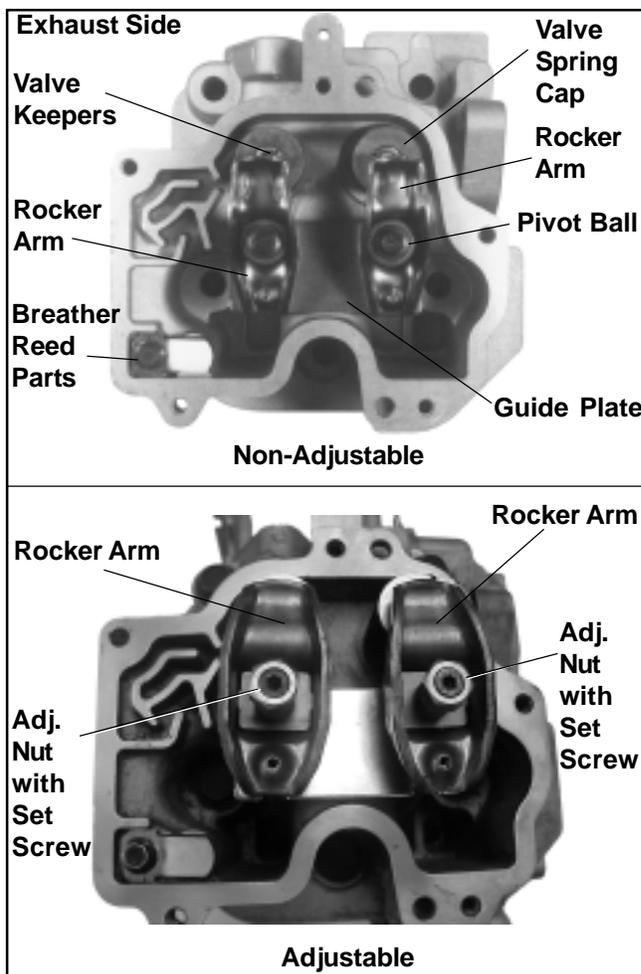
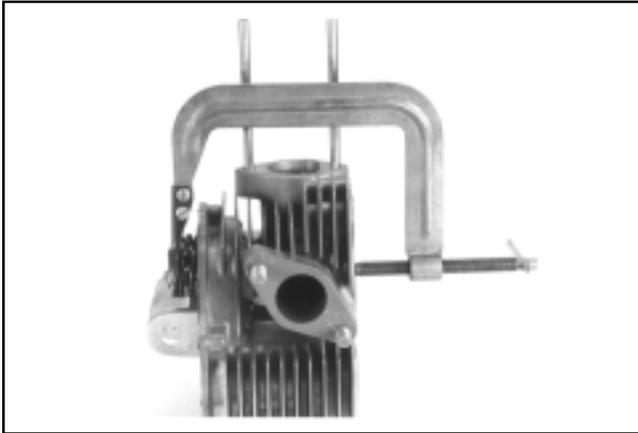

**Figure 9-26. Removing Spark Plug, Breather, and Rocker Arms (Rocker Bridge Head).**
**Figure 9-27. Separate Rocker Arm/ Pivot Assembly Style Head.**
Two basic styles of heads are used. The first style utilizes a rocker bridge configuration as shown in Figure 9-26. The second style contains separate rocker arm assemblies (with or without a guide plate), and either a non-adjustable or adjustable valve lash configuration. Variations of this style are shown in Figure 9-27. Components are unique to each head configuration. Follow the appropriate procedure based upon the configuration involved.
1. Remove the spark plug. See Figure 9-26.
3. **Rocker Bridge Heads** - Figure 9-26
### Heads with Separate Pivots/Rocker Arms - Figure 9-27